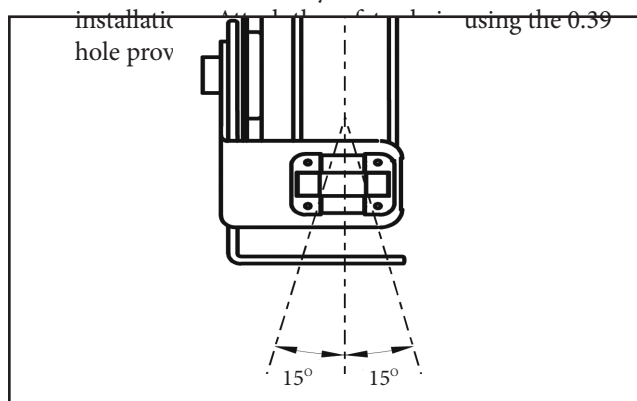

Figure 8-5 Cable Deflection with Roller Guide
- The reel should be oriented so that the cable extends perpendicular to the rotation of the spool. The cable deflection should not exceed 15° to either side of the center line. See **Figure 8-5**.